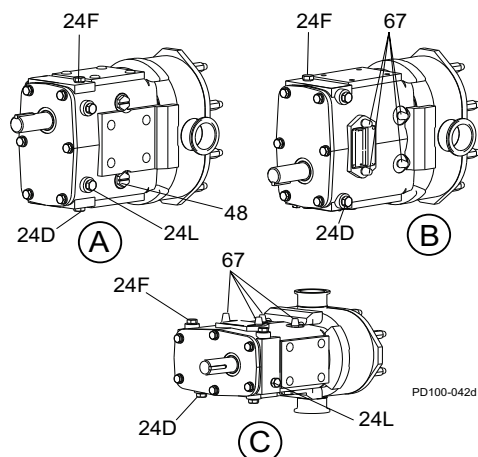

Figure 30 - Lubrication Points
Excess grease will accumulate in the gear case and must be removed through the cleanout hole covered with a stainless plug with O-ring (Figure 30, item 48). Check the cleanout plugs for any collection of gear oil.